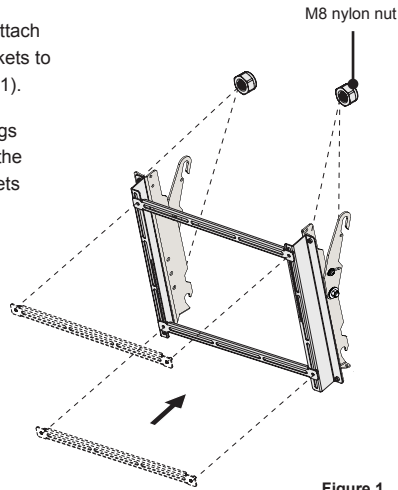

Figure 1
Use four (4) M8 nylon nuts to attach two (2) horizontal support brackets to the extension brackets (Figure 1).